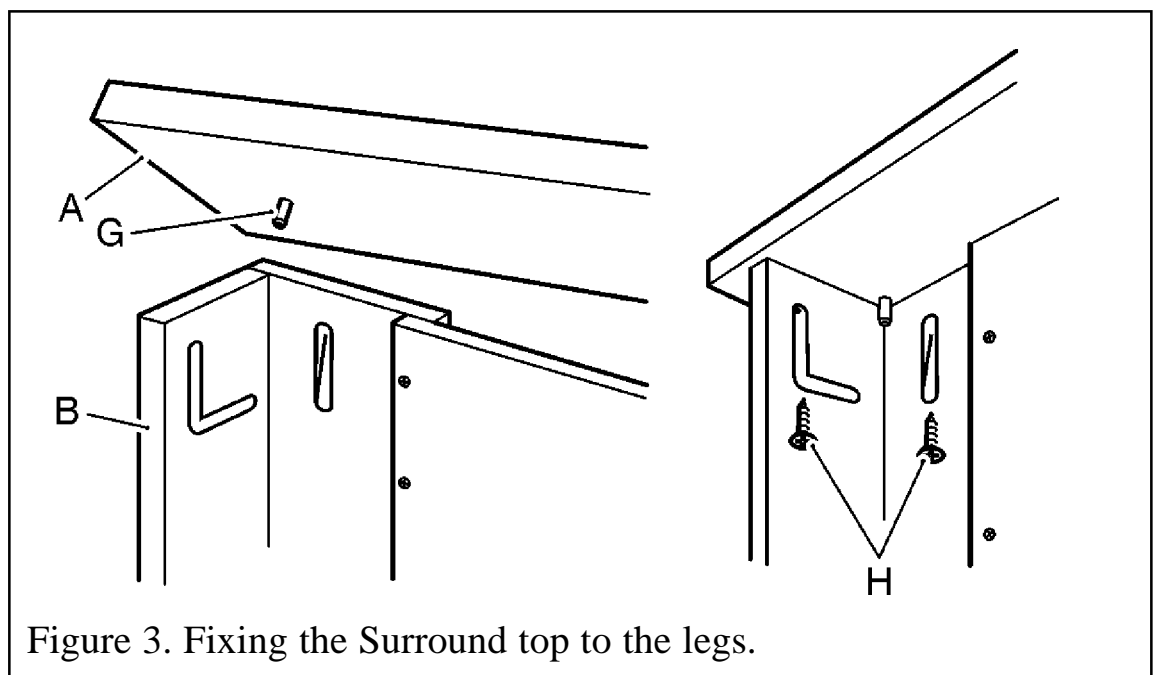

Figure 3. Fixing the Surround top to the legs.
- Take the Surround top (A) and insert 2 wooden dowels (G) into the pre-drilled holes on the underside. Place the Surround top (A) on top of the Surround (See figure 3). Ensure that the dowels are located in the internal corners of legs (B) and that the **veneered edge is facing forward**. Screw into place using 4 screws (H) into the pre-drilled holes.